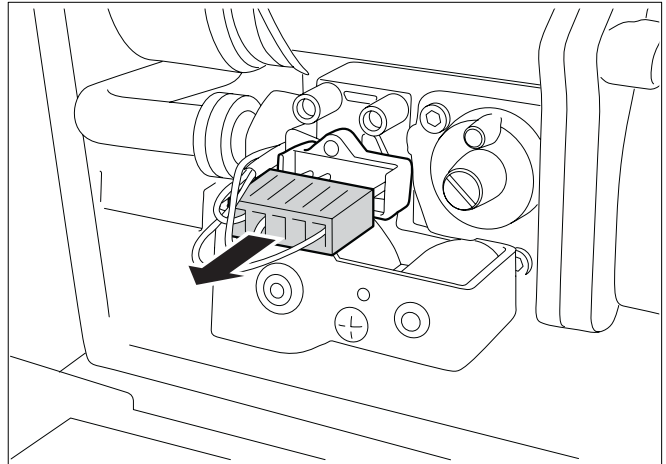

Fig. 77 Removing the gas control valve plug
- Remove the plug of the gas control valve (see fig. 77).